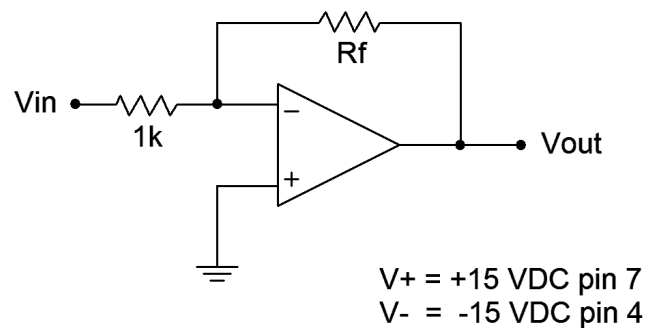

Figure 1
1. The voltage gain of the inverting amplifier can be determined accurately from the feedback resistors R_i and R_f . Calculate the voltage gains for the amplifier of Figure 1 for the R_f values specified, and record them in Table 1.
2. Assemble the circuit of Figure 1 using the $4k7\ \Omega$ resistor.